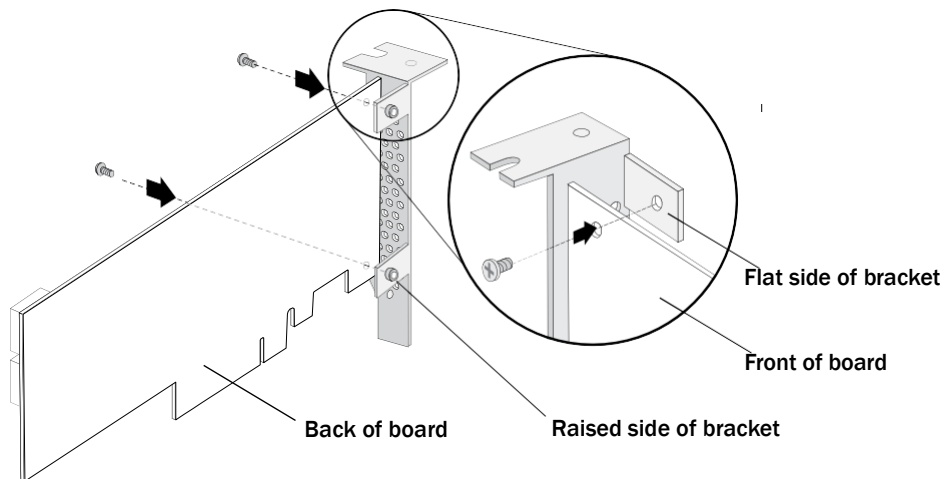

Figure 6.
2. Attach the low-profile bracket to the expander card. The low-profile bracket is installed on the back side of the expander, with the mounting screws inserted from the front, as shown the Figure 6. Insert the screws through the holes on the front of the expander, then fasten the screws to the bracket with a Phillips screw driver.
Caution: The mount points on the low-profile bracket have a smooth or flat side and a raised side that looks like a spacer (see Figure 6). Be sure to install the bracket with the flat side against the expander card and the raised side facing away from the expander card.